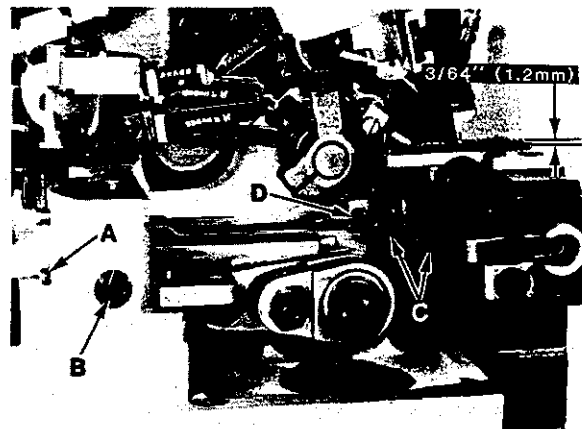

Fig. 15
Rotate handwheel in operating direction until teeth of rising feeds are above the top surface of throat plate. The feeds should be level with throat plate at this time. With feeds at highest position of travel, their teeth should extend approximately  $\frac{3}{64}$  inch (1.2mm) above throat plate as shown in Fig. 15.
If adjustment is required, loosen lock screw (A) and rotate tilt adjusting pin (B) as required to level feeds, then tighten lock screw (A). Loosen feed attaching screws (C) and adjust feeds up or down to obtain proper height above throat plate as shown in Fig. 15, then tighten screws (C).